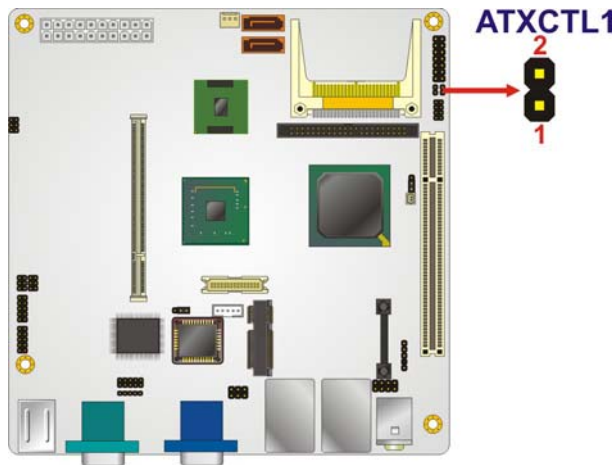

Figure 5-3: AT/ATX Power Selection Jumper Location
- Jumper Location:** See Figure 5-3
The location of the AT/ATX Power Selection jumper are shown in Figure 5-3 below.